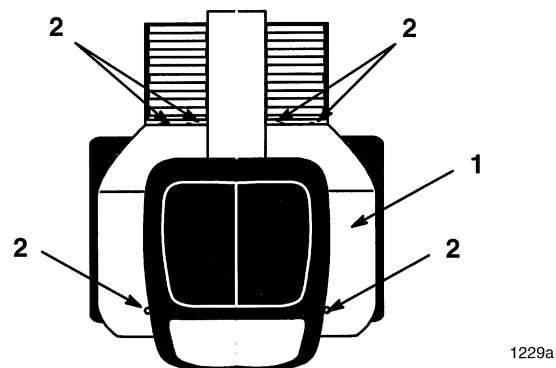

Figure 4
1. Remove and save carriage bolts at fender mount under the seat and attaching footrests. (Fig. 4).
15. Route seat switch wire harness through center hole and install fender/seat pan with previously removed hardware (Fig. 4).